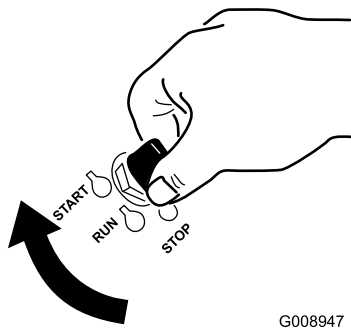

Figure 20
- Turn the ignition key to the Start position (Figure 20). When the engine starts, release the key.